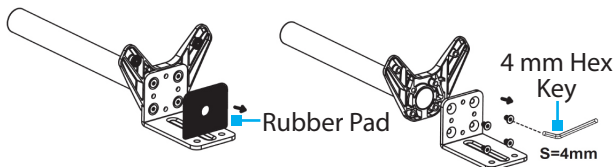

Figure 3
- Remove the **Rubber Pad**, located at the base of the **Desk Clamp**. (Figure 3)